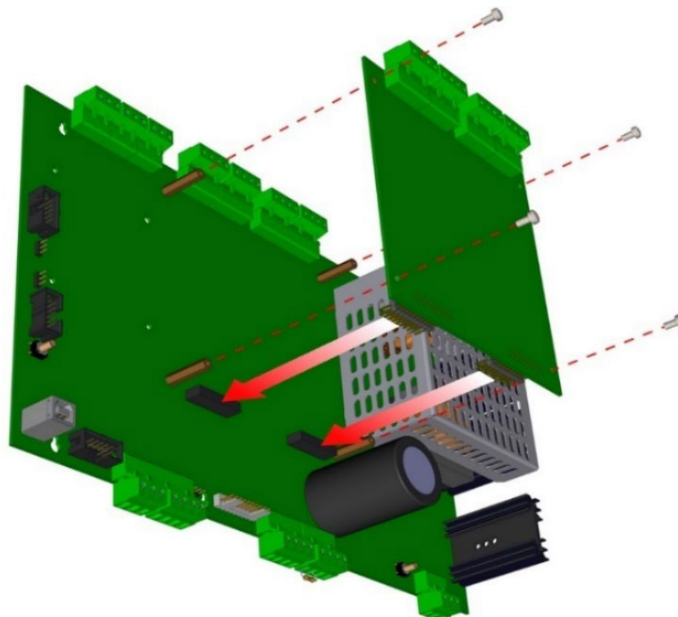

Figure 17 - NX10-EM-LPD Module Installation to an NX10-ACS-2L Base Card
3. Remove the four (4) panhead screws securing the module to the NX10-ACS-2L base card (Figure 17).
1. If not fitted already, insert, and carefully tighten the four (4) metal hexagon spacers to the NX10-ACS base card (Figure 17).
3. With the module correctly plugged into the base card, secure the module with the four (4) supplied panhead screws (Figure 17).